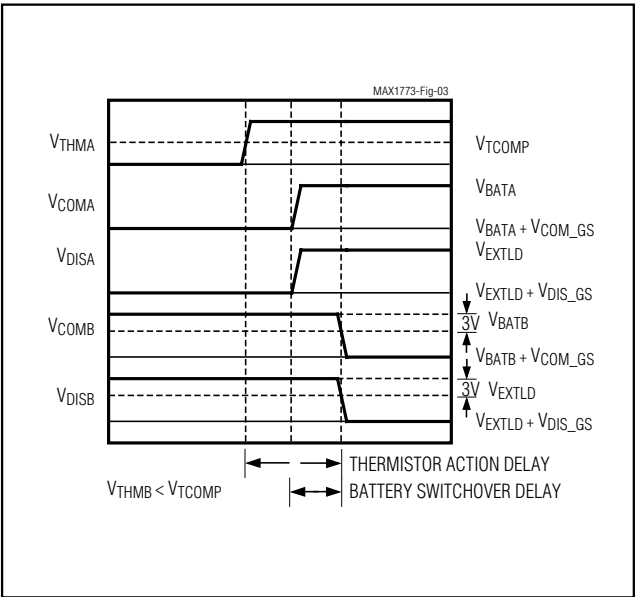

Figure 3. Thermistor Switchover Delay (Battery A to Battery B)
**Note 8:** Thermistor Action Delay begins when VTHM\_ of the connected battery rises above VTCOMP and ends when both VCOM\_ and VDIS\_ of the other battery have fallen 3V below their sources (Figures 3 and 4).